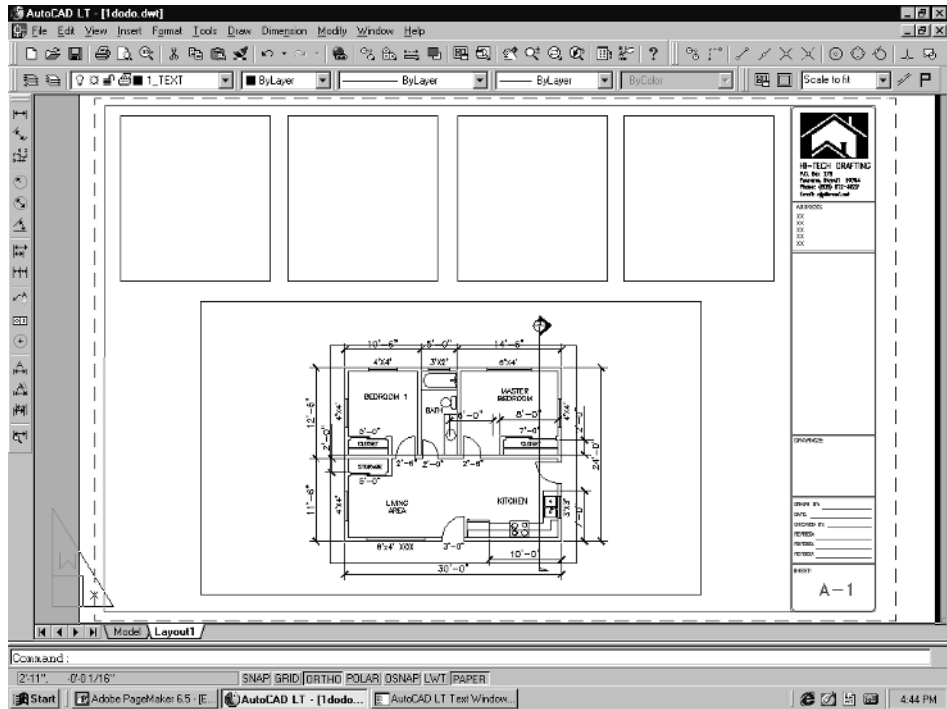

Figure 4-72
7. Change back to paper space by selecting **TILE** for (LT 98) or **Layout1** (LT 2000/2000i). Pick **PAPER** to change to floating model space. Pick inside of the large viewport and scale it to 1/4" = 1'. Type **ZOOM** and **Enter**. Type **E** and **Enter**. This should fill the large viewport up with the entire drawing. You want to zoom in on the floor plan, so type **ZOOM** and **Enter**. Type **W** and **Enter**. Then “window” around the floor plan. This should fill the viewport up with just the floor plan. See Figure 4-72.